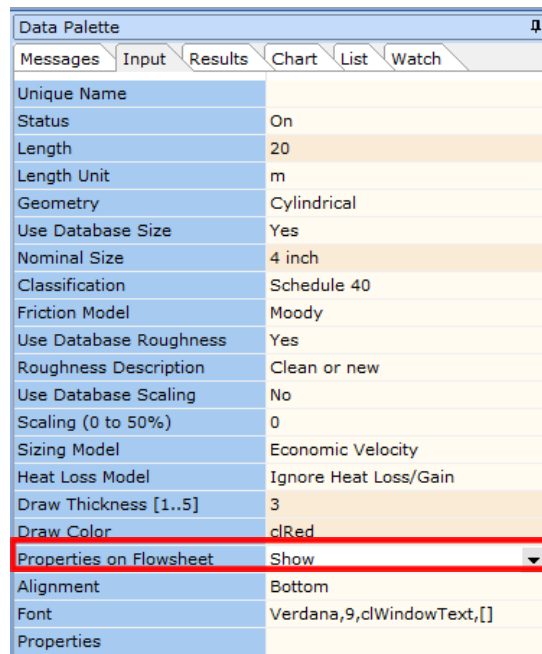

Figure 37: Show Properties on Flowsheet.
44. Now let us show the properties of the pipe. Left mouse-click on the pipe number “-1” and from the *Input Inspector*, change the field titled *Properties on Flowsheet* from *Hide* to *Show* (Figure 37).